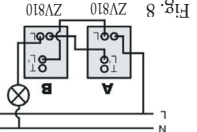

Fig. 8
3. To replace both 2 way switches in a two way circuit. (See Fig. 8)